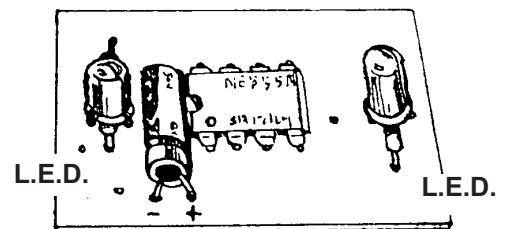

FIGURE 4
• **STEP 4** (see figure 4)
Insert and solder the battery snap paying close attention to the **RED** and **BLACK** wire as per figure 4. Connect a 9 volt battery (not supplied with this kit) and the L.E.D.s should start to flash.